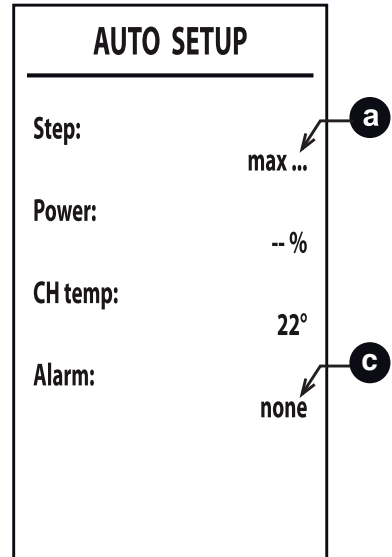

fig. 37
- 6 After ignition, the burner goes to heating at the various powers (max, med, min) indicated by point **a** (*fig. 37*). If the system heat dissipation is not sufficient to end the procedure, a DHW request can be activated **only after the burner has ignited**.
- 8 If the ignition sequence described in point "6" is unsuccessful, the message **max\_err** will appear at point **a** and an error code at point **c** (*fig. 37*).